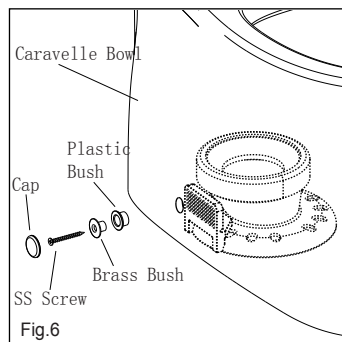
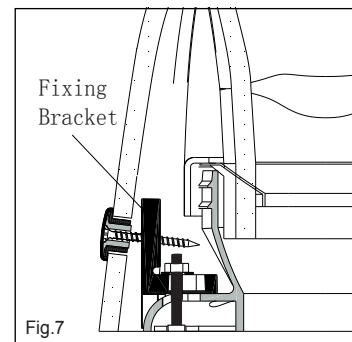

Fig.6
Fig.7
8. Insert the plastic bushing and brass bushing into the Bowl fixing hole as shown in Fig.6. Secure the bushings through the holes in fixing bracket with SS screws as shown in Fig. 7. Cover the holes with caps.